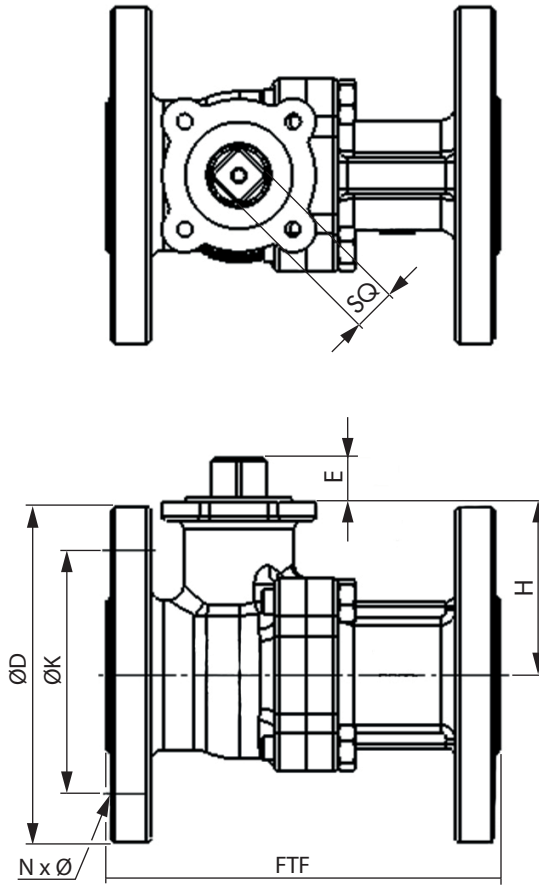
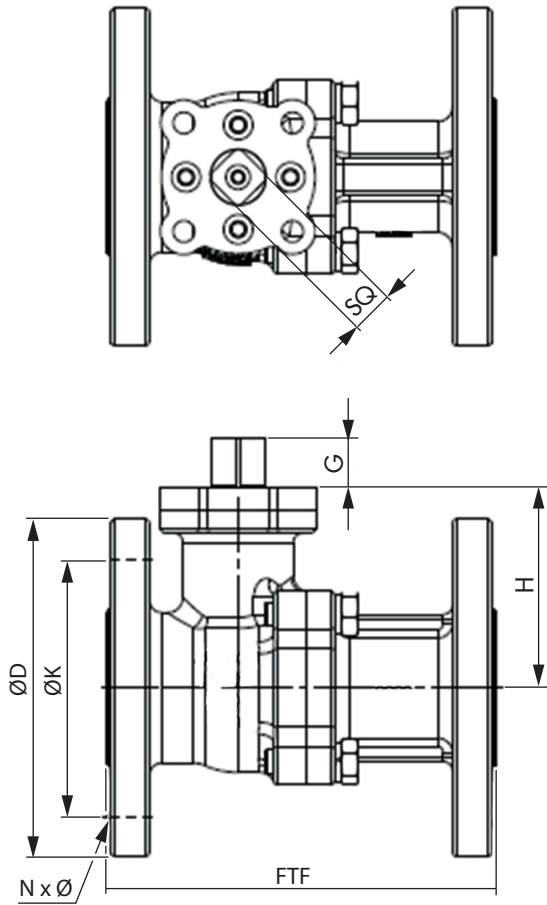

Fig. 3-5: Standard version
Fig. 3-6: Fire-safe version
**Table 3-4:** Dimensions for Type 3358 Ball Valve without actuator (see Fig. 3-5 and Fig. 3-6)